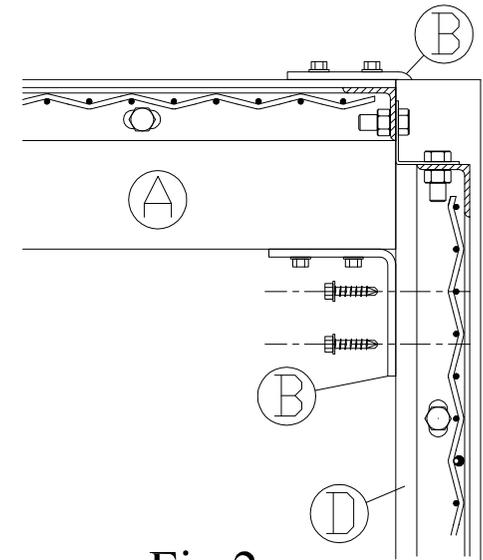

Fig.2
5. Lift ceiling tube (A) above the partition wall post (D) and lower into place so that the top bracket fits inside of wall post (D) Per Fig 2.